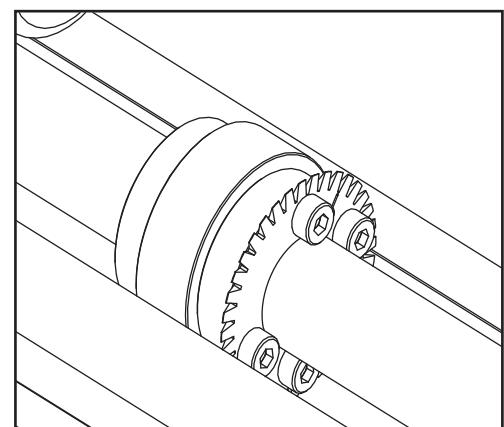

Figure 1
- 6 Mount the other half of the blade to the drive wheel as shown (Figure 1). Secure the blades to the wheel ensuring not to over tighten grub screw.